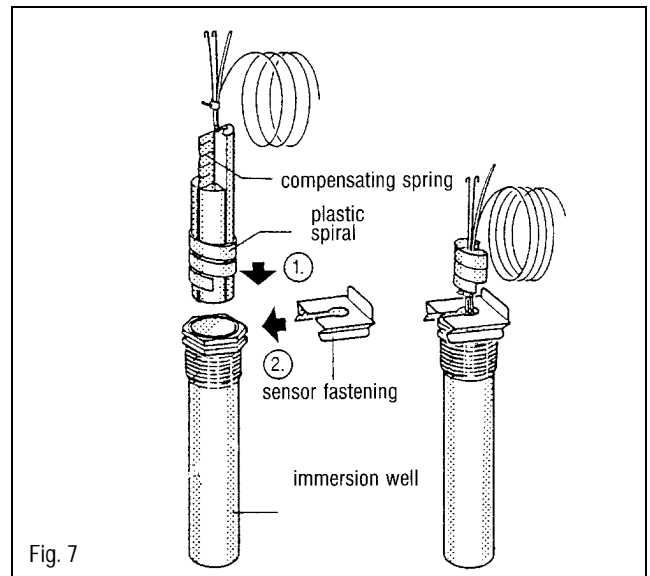

Fig. 7
- Slide the fastening clip on the head of the immersion well (Fig. 7).